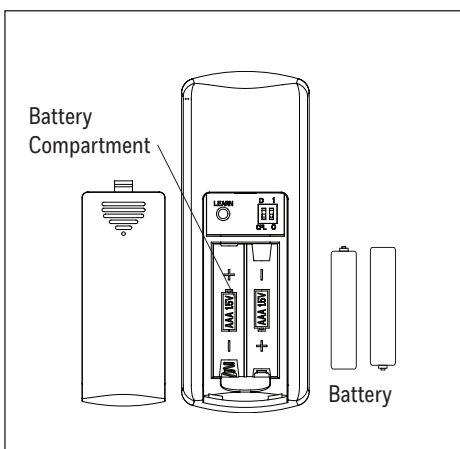

Figure 5.1
1. Use a flat-head screwdriver, if necessary, to remove the battery cover from the back of the remote found in remote pack. Insert the battery into the remote; ensure polarity of battery matches the polarity indicated in the battery compartment -- positive (+) to positive (+) and negative (-) to negative (-). Replace the back cover and press the fan on/off button on the remote to ensure the LED indicator illuminates and the remote turns on the fan (Figure 5.1).
Remote does not work.	<ol style="list-style-type: none"> 1. Power surge may have cleared the memory and remote needs to be resynced to the receiver. Syncing instructions: Turn off the power at the breaker box for at least 10 seconds and then turn the power back on. Within 30 seconds, press and hold the "LEARN" button (Figure 5.1) on the back of the remote for 3 seconds. The fan will turn on at high speed and light will blink twice and stay on, signaling a successful synchronization. 2. Insert new AAA batteries in battery compartment of the wall control. 3. If there are several remote fans in proximity, turn the power off to those fans and re-sync the fan.